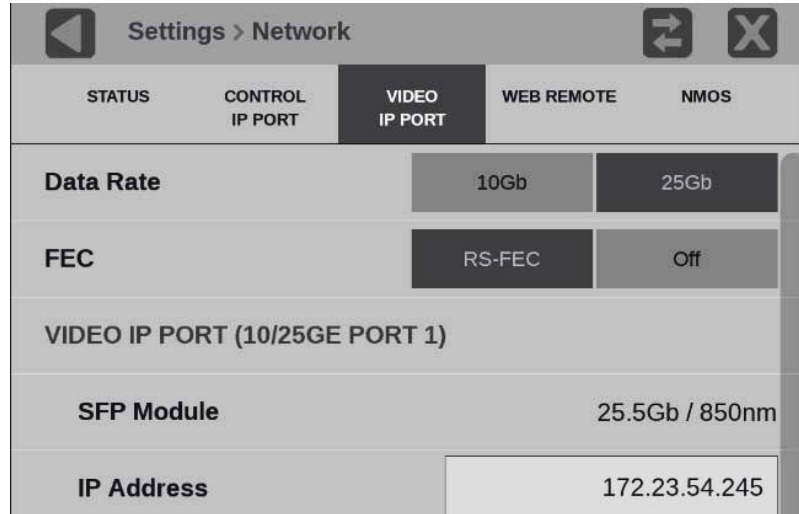

Figure 46: VIDEO IP PORT submenu 1
5. Select **RS-FEC** if Forward Error Correction (FEC) is needed. RS-FEC is specified by IEEE 802.3 Clause 91. (See Figure 46.)